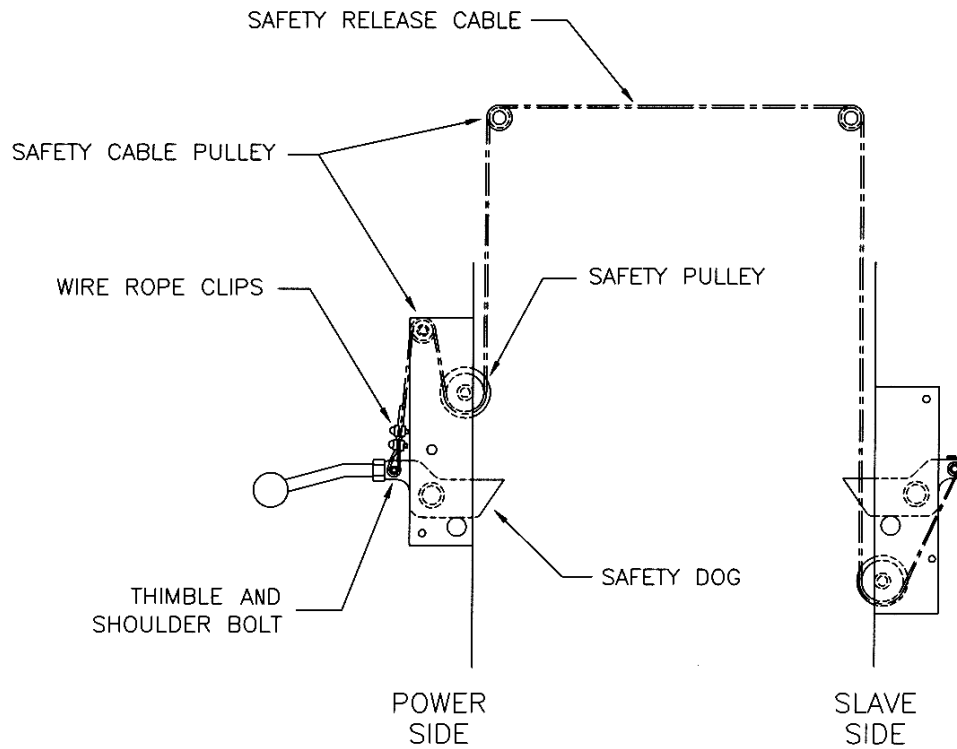

Figure 10 – Safety Cable Release Routing and Adjustment
2. Refer to **Figure 10** for safety release cable routing. The end of the cable that has a collar attaches to the slave side tower. The free end is fixed to the power side tower using two (2) wire rope clips.
7. Guide the cable up under the large pulley and then over the small pulley towards the safety dog as shown in Figure 10. Wrap the cable around the thimble (attached to the safety dog with a 3/8" x 1 1/2" lg. shoulder bolt) and then clamp it using two (2) wire rope clips. Do not tighten fully at this stage.